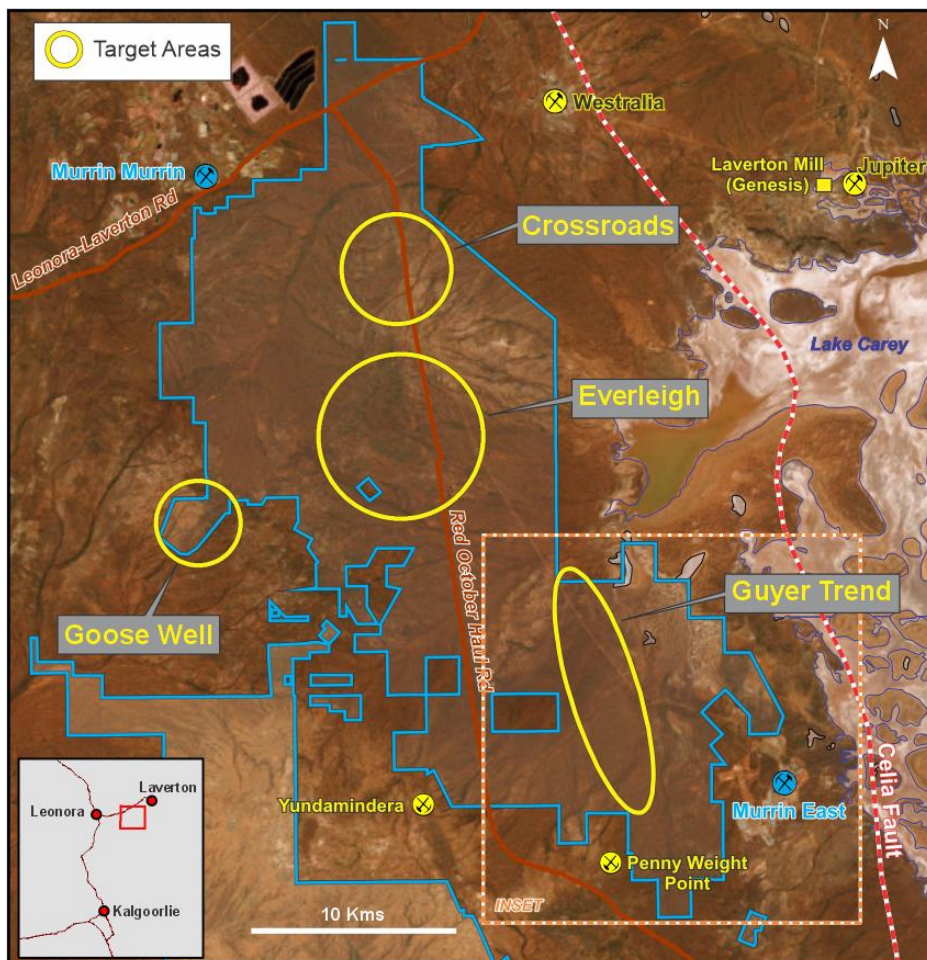

Figure 1: 14 Mile Well Project area, highlighting the location of the Guyer Trend and other key target areas. Refer to Figure 3 for inset.
The board of Iceni Gold Limited (**ASX: ICL**) (**Iceni** or the **Company**) is pleased to announce the results from an early stage aircore (AC) drilling program along the 15km long Guyer Trend at its flagship 14 Mile Well Gold Project (**14MWGP** or **Project**) located midway between the gold mining towns of Leonora and Laverton. The Project adjoins (Figure 1) the Laverton Gold Operation, which contains the Jupiter and Westralia gold deposits owned by Genesis Minerals Limited (ASX: GMD)
The Guyer Trend (**Guyer**) is located in the southeastern part of the 14MWGP. It was one of four key target areas identified from a targeting review in May 2024 that recognised priority areas to focus exploration on during CY2024 for a gold discovery (Figure 1). The trend lies over a northerly striking belt of mafic greenstone sequences, bounded by the Danjo Granite to the west and to the east by intermediate volcanic rocks (Figure 3).